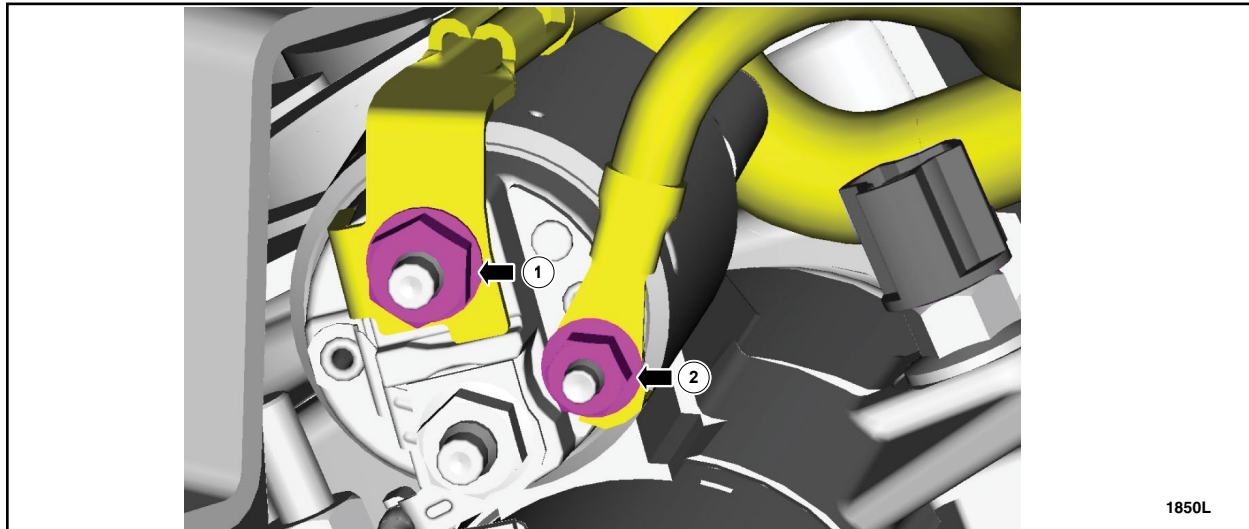

FIGURE 12
4. Inspect the starter motor battery positive cable nut and stud and the starter control wire nut and stud for cross threading or damage and torque both nuts. See Figure 12.